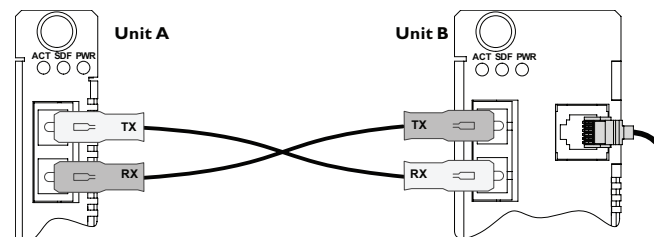

Figure 6: Connect Fiber Cable from Unit A SIC to Unit B SIC
- Connect the male TX cable connector to the female TX port. See Figure 6.